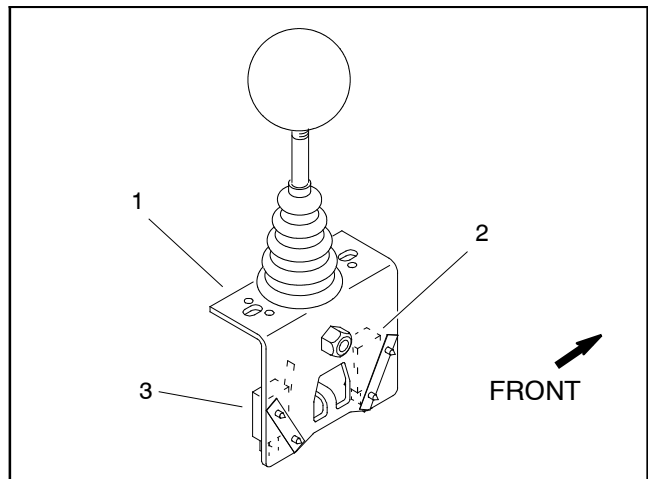

Figure 47
3. Disconnect wire harness electrical connector from the raise or lower switch that is to be tested (Fig. 47).